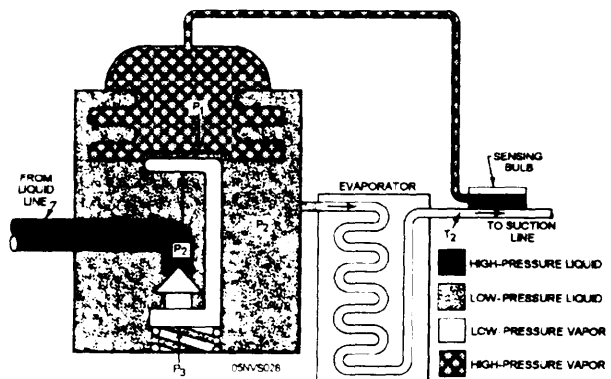

Figure 14-22(B).—Thermal expansion valve.
When the pressure of p_1 is higher than the combined pressure of p_2 and p_3 , the valve opens. This valve is equalized internally because the evaporator pressure is sensed through an internal port in the valve. Figure 14-22(C) provides another view showing how a TEV is equalized internally. When a TEV is used on a large evaporator or an evaporator with a pressure drop of 6 to 7 pounds across the evaporator, the valve will prematurely cause hunting (valve fluctuates toward opening and closing). In the case of valve hunting, install a TEV equipped with an external equalizer line. Figure 14-22(D) shows the TEV installed with an external equalizer line. The external equalizer line compensates for a pressure drop from the inlet of the evaporator to the end of the tail coil and eliminates valve hunting. During installation of an equalizer line, ensure that it is located downstream from the sensing bulb.